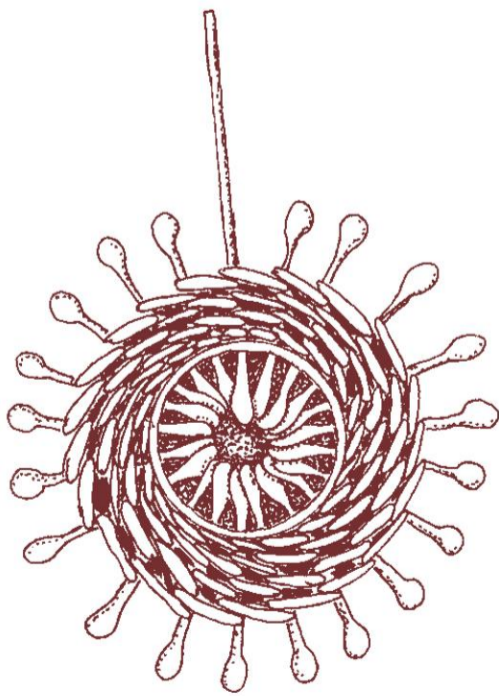

Figure 2
**10** You can curl the wire on the ends if you wish, or you can leave them straight. Hammer gently to secure and make the wire work hard, as shown in figure 2.